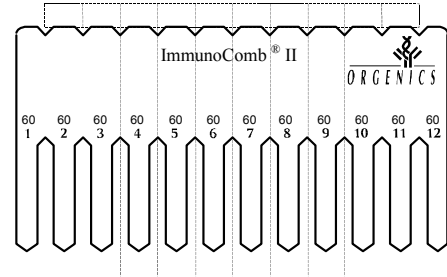

Figure 4. Breaking the Card
- Bend and break the Card vertically or cut with scissors (see Figure 4) to detach the required number of teeth (No. of tests + 2 controls).